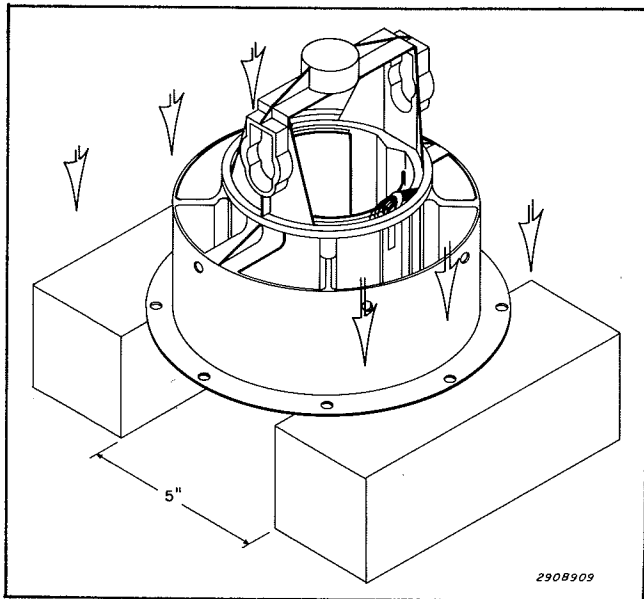

Figure 5-11. Chopper Field Removal.
4. Arrange two spacers consisting of 4" x 4" (102mm x 102mm) lumber or similar material, approximately 5" (127mm) apart on a solid work surface as shown in figure 5-11.
5. Sharply rap the motor housing against the spacers several times until the field drops out of the motor housing. The motor housing is an aluminum die casting. As a result, it can be broken or damaged. Therefore, use caution to ensure that the motor housing strikes the spacers squarely as indicated in figure 5-11.